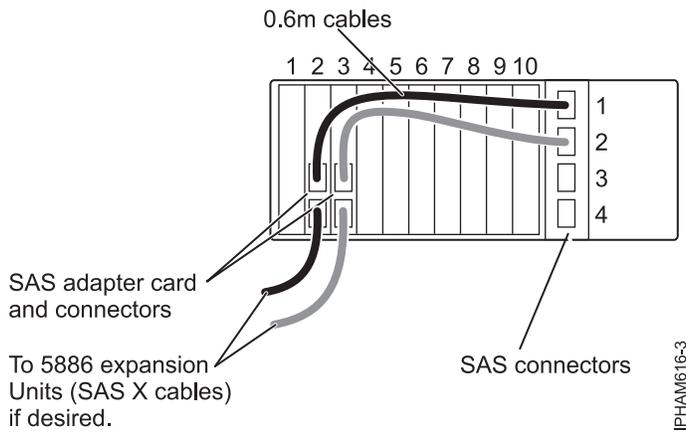

Figure 44. Physical cabling example: One hard disk drive partition with 18 disks, dual SAS adapters, hard disk drive partitions switch position 1
<p>1 hard disk drive partition with 18 disks and dual SAS adapters.</p> <p>This is a multi-initiator high-availability configuration.</p> <p>Dual SAS connectivity to all drives.</p>	<p>For related physical cabling, see Figure 44 on page 72.</p> <p>Operating system: AIX or Linux</p> <p>SAS adapter card: Either two (FC 5901) - PCIe Dual - x4 SAS Adapters or two (FC 5903) - PCIe Dual - x4 3Gb SAS RAID Adapters</p> <p>Hard disk drive partitions switch: position 1</p> <p>Cables: Two (FC 3688) - SAS Cables (AT) 0.6 Meter.</p> <p>Note: For the AIX and Linux operating system, this must be a RAID configuration.</p>